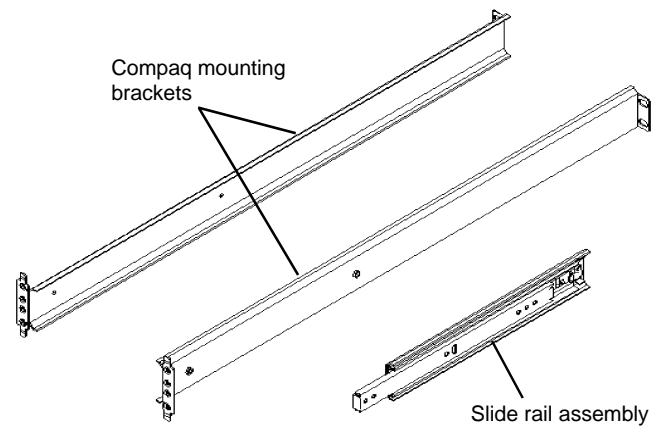

Figure 1
NOTE: The **Compaq Mounting Brackets** (ordered separately) are used to attach the chassis **Slide Rail Assemblies** to the rack. Slide Rail assemblies are included with the **Compaq Server** along with the hardware to install them. See **Figure 1**.
1. Place the two-piece slide rail assemblies (outer rails and component rails) and fasteners on a flat surface along with the Compaq mounting brackets. See **Figure 1**.